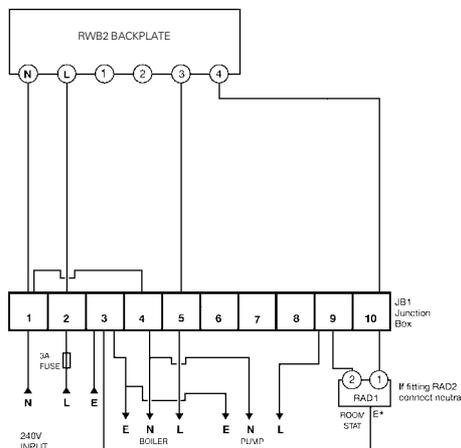
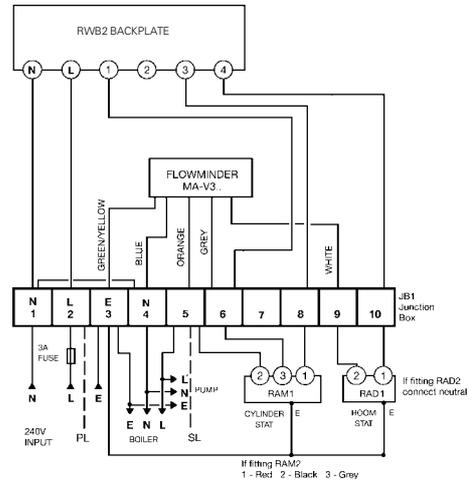
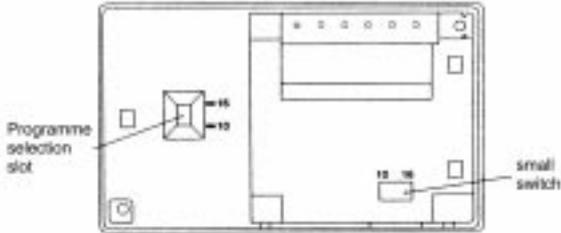

Fig 3
Fig 4
Fig 6
1. Select 10 or 16 way programme before clipping unit on to backplate. (See Fig. 6).
Line voltage applied to terminals 3 and 4 when the programmer is in the ON position for HW and CH and to terminals 1 and 2 when it is in the OFF position. Terminals N, L, 1, 2, 3 and 4 connect the controls for domestic hot water and central heating applications. (See Figs. 3, 4 and 5).
The programmers are factory set to give 10 combinations of HW and CH, the 10 programme position is normally used when the hot water is on a gravity system. In this case it is not possible to have CH without HW. (See Fig. 3 for wiring diagram). If 16 programmes are required then refer to programme selection. (Fig 6).
The 16 programme position is normally used on a fully pumped system using 2 or 3 port valves, thus allowing independent control of HW and CH. (See Figs. 4 and 5 for wiring diagrams).
This programme is supplied in the 10 position mode suitable for the system as in Fig 3. When using systems shown in Figs 4 and 5 you should carry out the following: